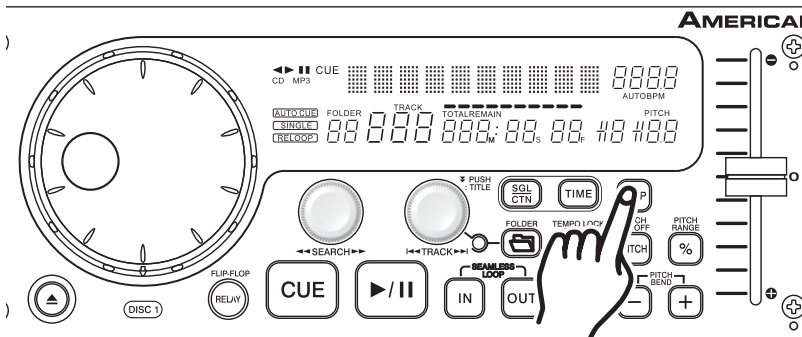

Figure 35
- 3) Now tap the **BOP BUTTON (9)** (Figure 35). It will produce a stutter effect as quickly as you tap on the **BOP BUTTON (9)**.